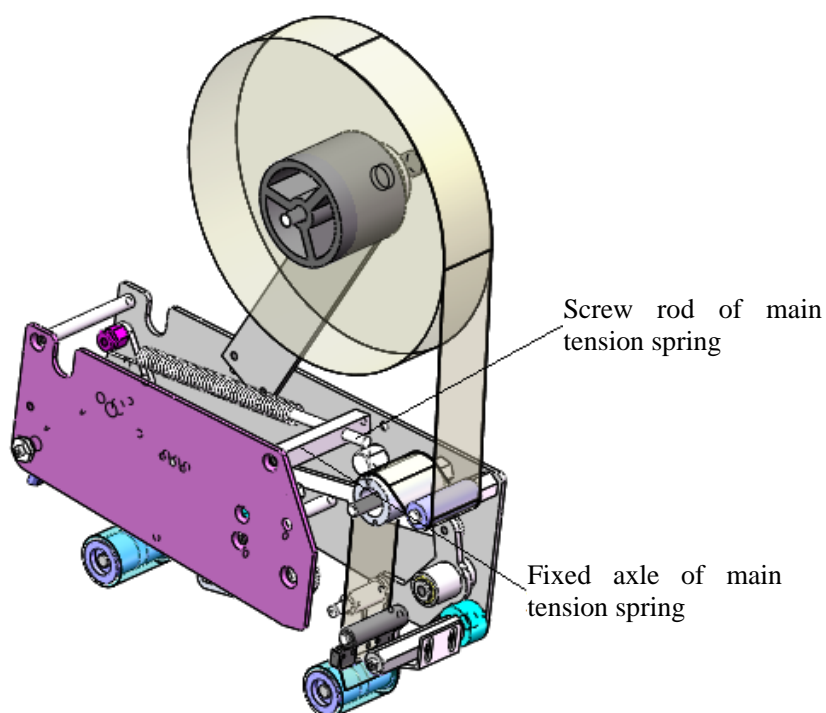

Figure 7
4.4 Adjustment of tape tension (see Figure 7):	- 10 -
(see Figure 7):